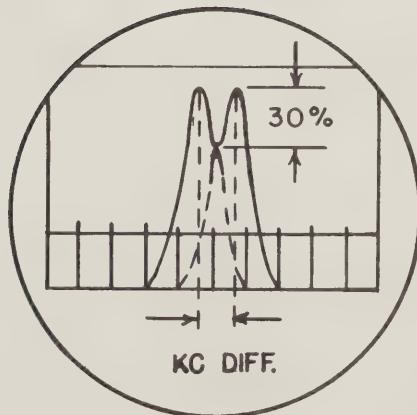

Figure 7-2. Resolution
g. The resolution of the indicator is measured at maximum sweep width (100 KC). Two signals, 397.5KC and 402.5KC, of equal amplitude are fed to J101. Refer to Fig. 7-2. The signals should intersect at point lower than 30% of the pip height. Resolution is defined as the frequency separation of the pips for an intersection at 30%.